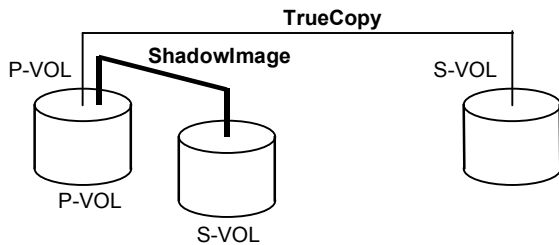
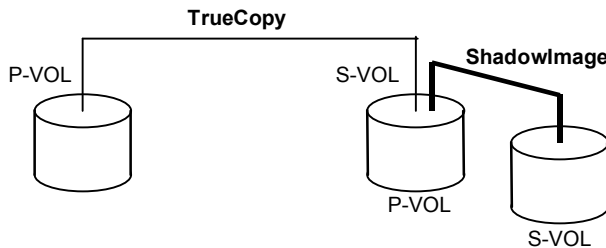
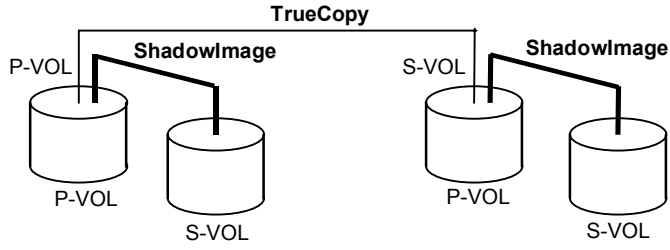

Figure 3.15 Shared TrueCopy P-VOL/ShadowImage P-VOL
Figure 3.16 Shared TrueCopy S-VOL/ShadowImage P-VOL
Figure 3.17 Shared TrueCopy/ShadowImage P-VOL with Shared TrueCopy S-VOL/ShadowImage P-VOL
- Figure 3.15 shows an example of a TrueCopy P-VOL which is also functioning as a ShadowImage P-VOL. This configuration allows you to use ShadowImage for on-site data backup in case of a TrueCopy failure, and to use TrueCopy to provide remote backup of the ShadowImage P-VOL in case of a ShadowImage failure.
- Figure 3.16 shows an example of a TrueCopy S-VOL which is also functioning as a ShadowImage P-VOL. This configuration allows you to use ShadowImage to provide multiple backup copies of a single TrueCopy P-VOL.
- Figure 3.17 combines the configurations shown in Figure 3.15 and Figure 3.16. Within a single TrueCopy pair, the P-VOL and S-VOL are both functioning as ShadowImage P-VOLs, providing multiple copies at the primary and remote sites.